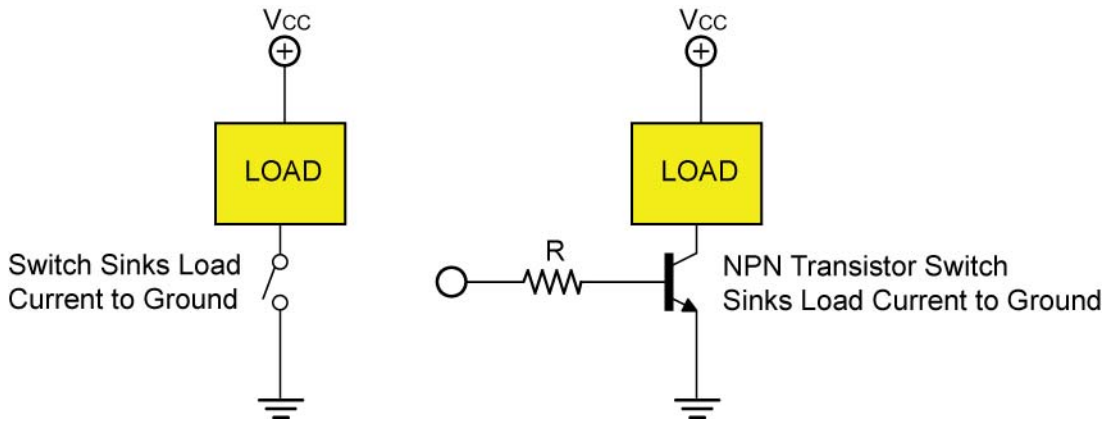

Figure 25: Sinking Current with a Switch and a Transistor
- Current sinking is similar, except the load is connected to a power supply and the device completes the path from the load to ground or system common (Figure 25). NPN transistors and N-channel FETs are used as current sinks. The switch and NPN transistor switch in Figure 25 are acting as a “low side switch”.